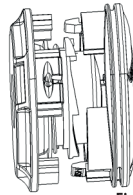

Fig. 23
2. Place the trimmer line end through the metal position part, align the upper cover to spool retainer, and push them hard until you hear a clear "click" sound (Fig.23&24).